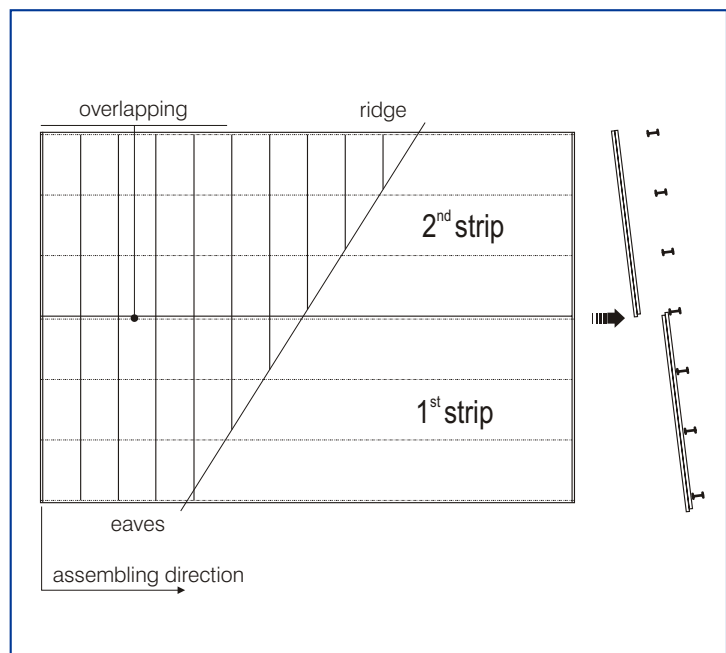

Fig. 16
- 4.1.4.10 When the pitch is of a length to require the use of more than one panel, the panel are installed in strips (Fig.16)